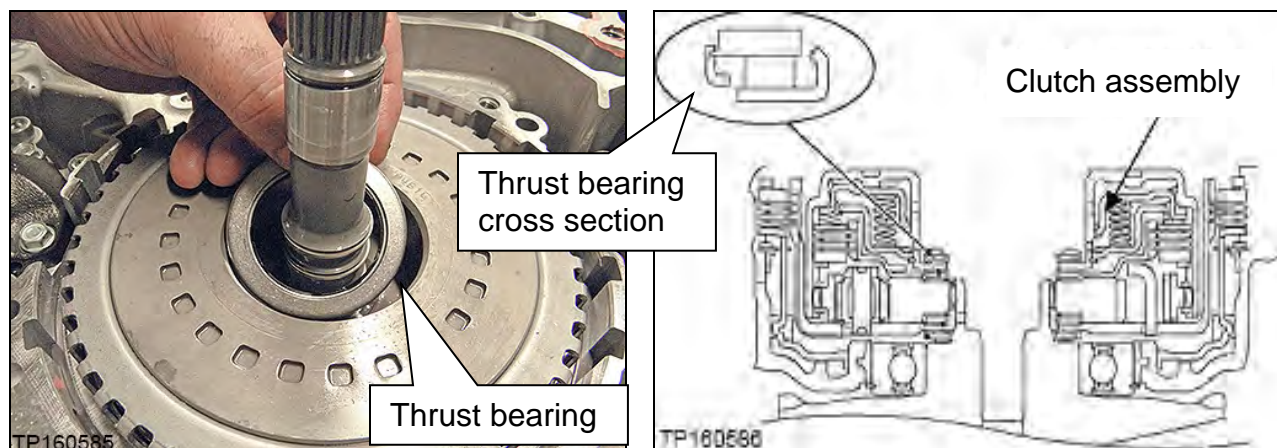

Figure 10G
7. Install the thrust bearing to the clutch assembly bore (Figure 10G).